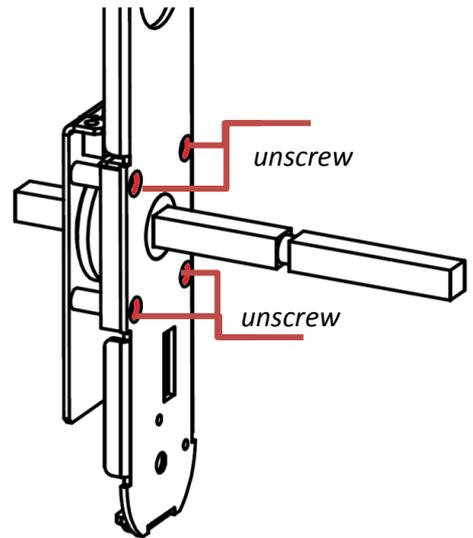

Fig. 4. Opening handle release mechanics
1. Unscrew 4 screws fixing handle release mechanics (Fig. 4)